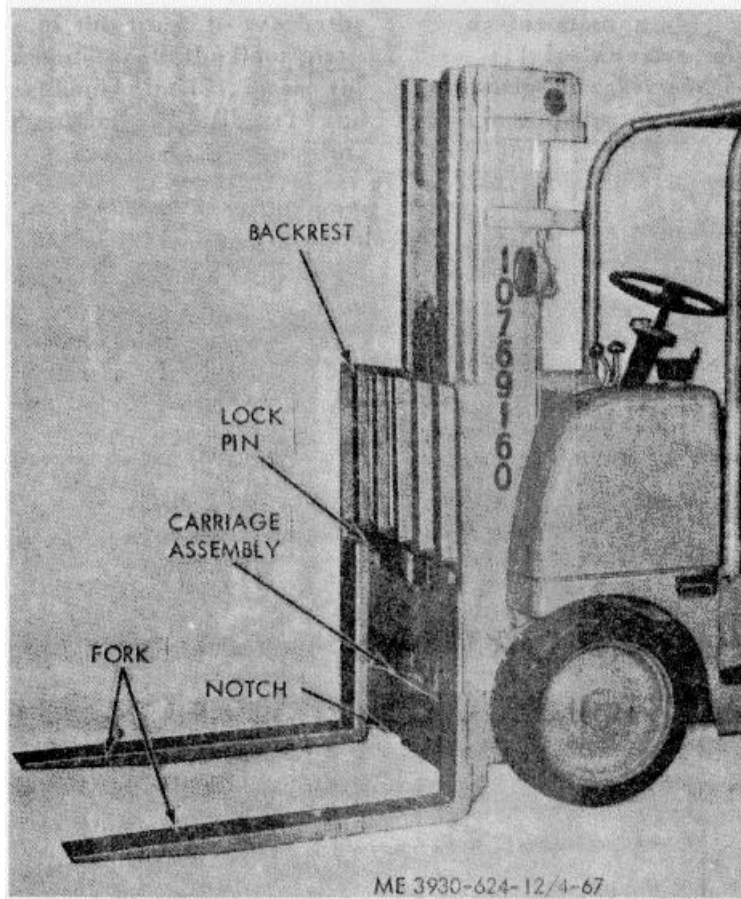

Figure 4-67. Fork removal.
(1) Position the fork carriage until the base of the fork just clears the floor.
(2) Release the lock pin (fig. 4-67) and slide the fork to a position over the cut-out in the lower carriage bar.